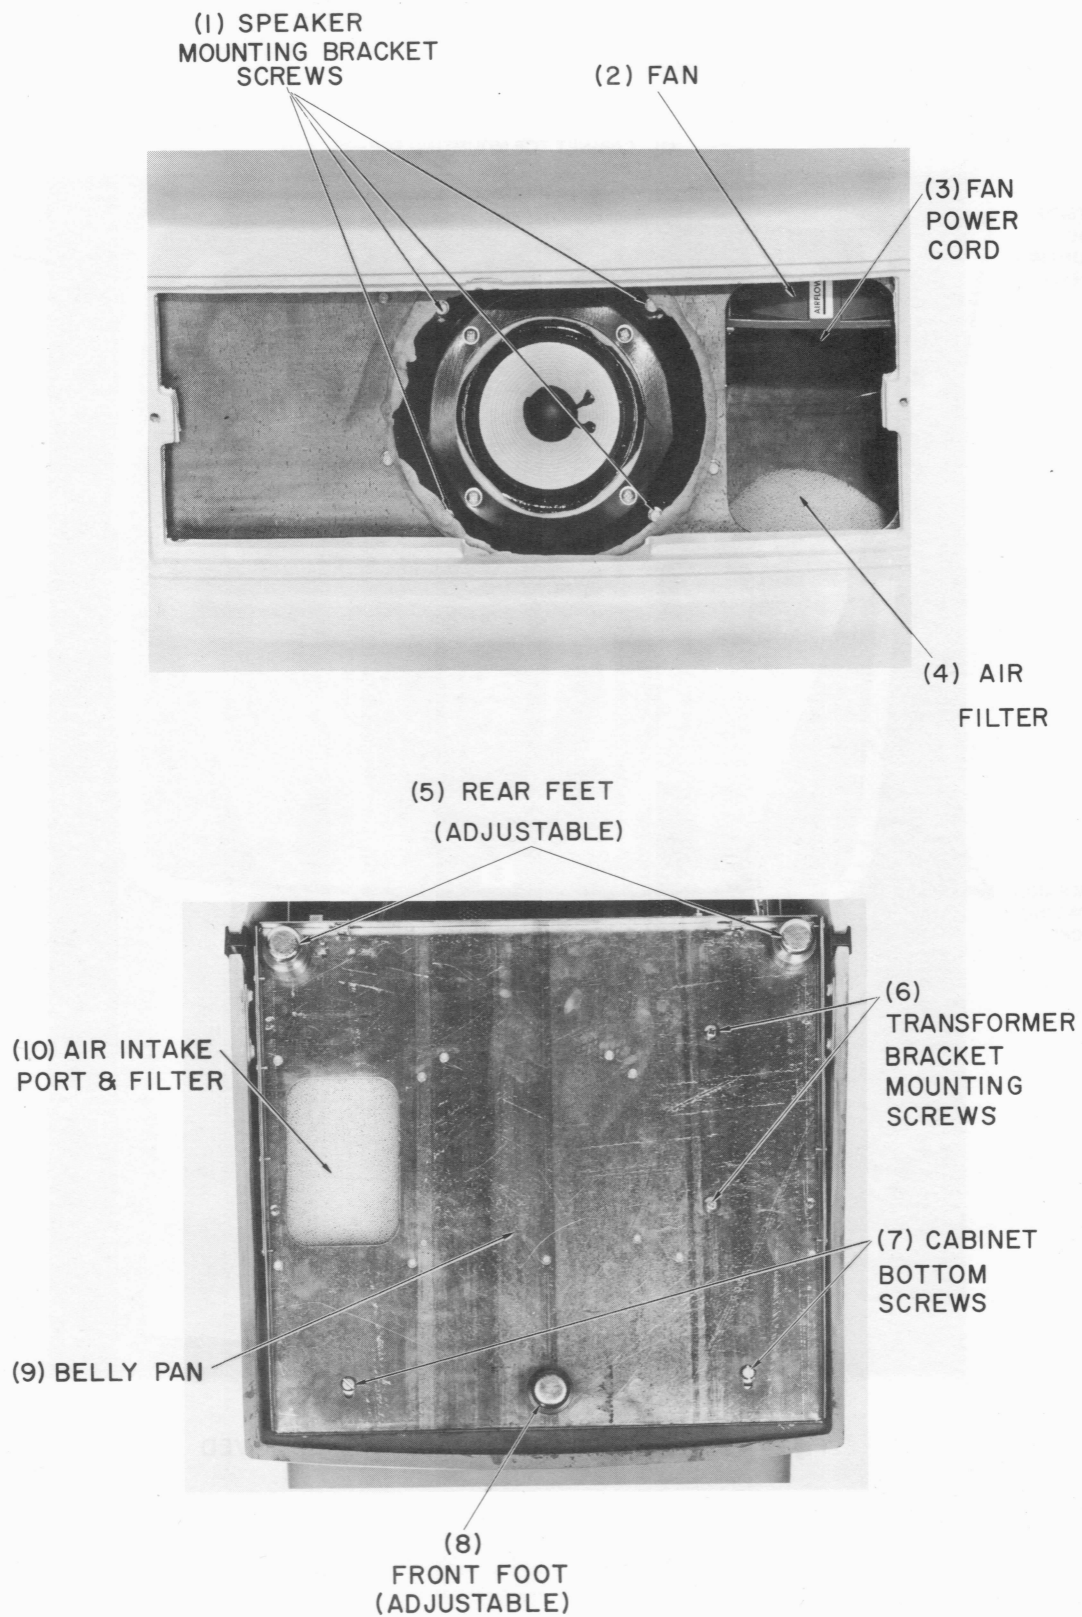

Figure 4-3. SPEAKER/FAN FRONT VIEW AND MAIN FRAME BOTTOM
2. Remove the four (4) Speaker Mounting Bracket Screws and flat washers (1, Figure 4-3) from the speaker mounting flange.
4. Remove the four (4) Phillips head screws, flat washers, lock washers and nuts from the speaker.
4. Using a short shank blade screwdriver and hex nut driver, loosen (do not remove) the two Transformer Bracket Mounting Screws (6, Figure 4-3).
1. From the front of the receiver, lift and tilt the set back about eight inches and place a temporary brace (books, etc.) no more than four to five inches high, directly under the Center Foot (8, Figure 4-3) of the chassis.
2. Remove two Cabinet Bottom Screws (7, Figure 4-3) and lock washers from the Belly Pan (7, Figure 4-3).